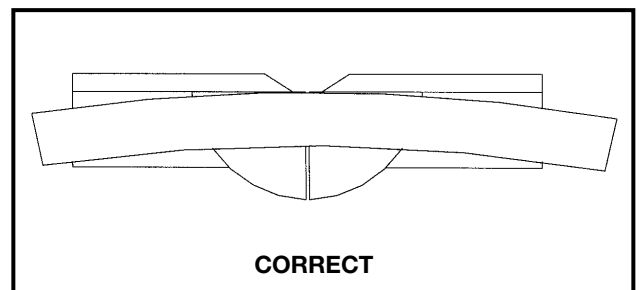

Fig. 34
1. First check to see if the material is bowed. If it is, make sure the material is positioned on the table as shown in Fig. 34.